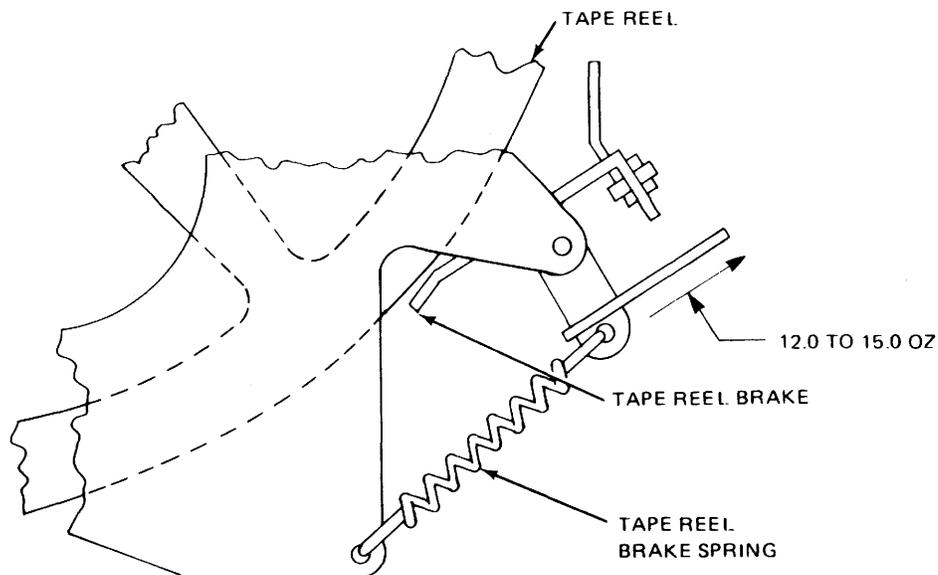

Figure 6-20. Tape Reel Brake Spring.
6. Adjust tape reel brake spring (see figure 6-20).